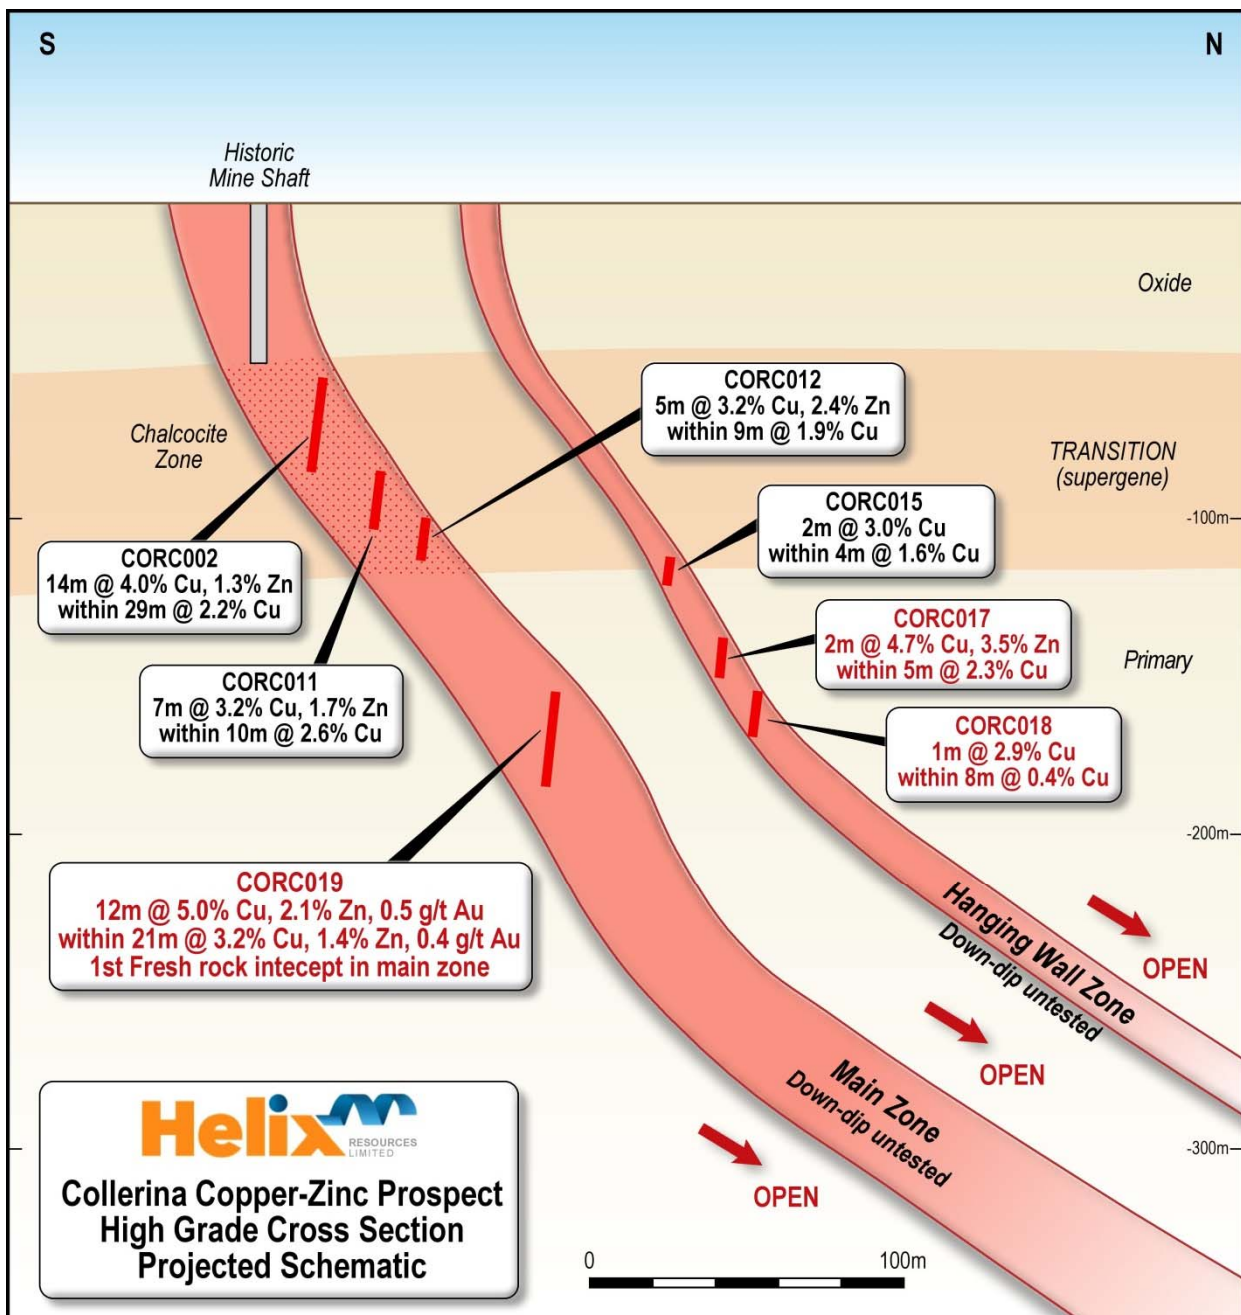

Figure 1: Cross section schematic illustrating the high grade main zone and hanging wall zone.^{1,2}
- Remaining assays from the previous RC program have been received. COCR017 recorded 2m @ 4.7% Cu & 3.5% Zn within 5m @ 2.3% Cu in the hanging wall zone (Refer Figure 1).